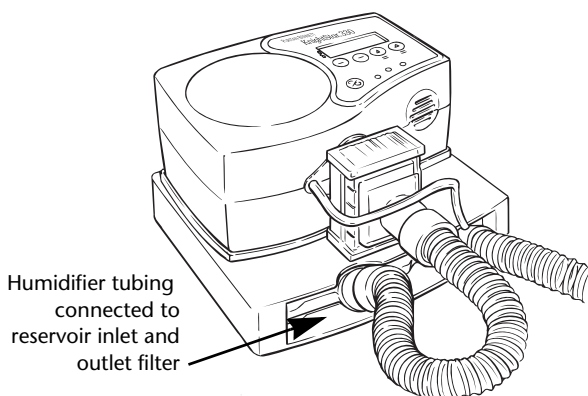

Figure 3-4. How to connect the humidifier tubing
4. Connect the short humidifier tubing (Figure 3-4) between the *KnightStar 330*'s filter outlet and the inlet of the reservoir.
5. Connect the breathing circuit to the humidifier outlet as shown in Figure 3-4. Be sure to connect the patient pressure tube to the connector next to the *KnightStar 330*'s air outlet.